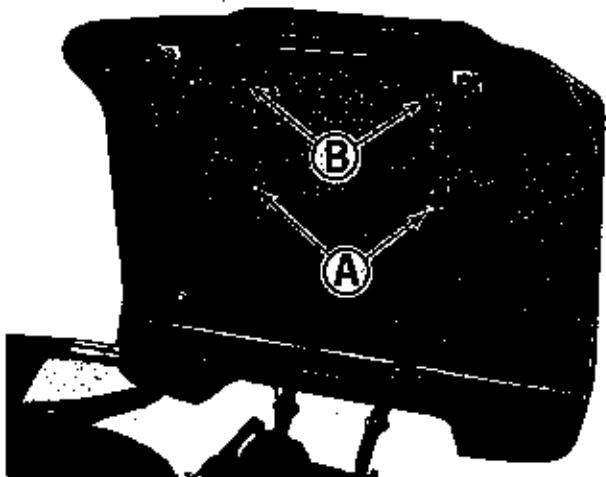
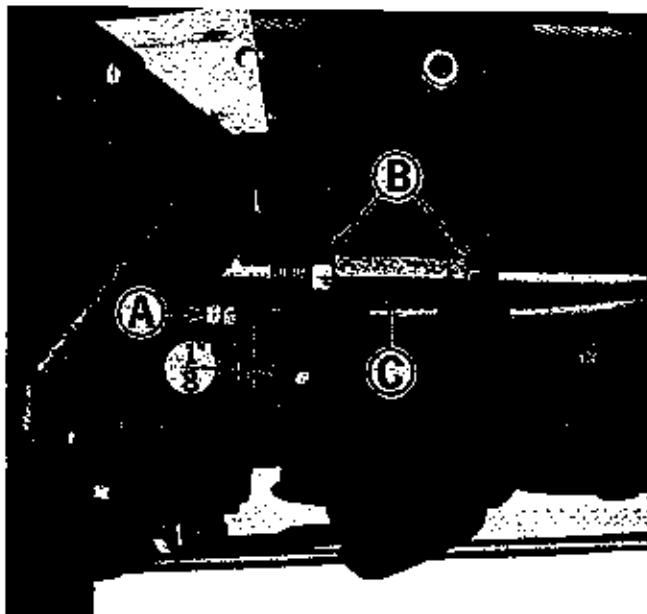

Figure 10. Seat deck raised.
Figure 11. Clutch free travel and hydrostatic transmission neutral adjustment.
locks out raise the seat deck as shown in figure 10. Raising the seat deck in this manner will expose many of the transmission adjustment and maintenance areas.
See figure 10. The tractor seat is properly adjusted when the operator can comfortably operate the clutch and brake pedal while sitting back in the seat. The seat can be adjusted forward or back in any of four positions. If adjustment is required, proceed as follows:
1. See figure 10. Position the seat deck as shown by following the instructions under Raising the Seat Deck on page 10.
2. Remove the two cap screws and lock washers at (A).
3. Remove the two nuts and lock washers at (B).
See figure 11. The clutch free travel is correct when there is $1/8"$ between the nuts (A) and the rod guide when the clutch brake pedal is released and pulled rearward as far as
1. Raise the seat deck as shown in figure 10, by following the instructions under Raising the Seat Deck on page 10.
2. Using two wrenches hold the forward nut at (A) stationary while turning the rearward nut counterclockwise slightly with the other to separate them.
4. Turn the forward nut at (A) as necessary so that the distance between it and the rod guide is $1/8"$ as shown in figure 11.
5. Using two wrenches hold the forward nut at (A) stationary while turning the rear one clockwise to tighten the two nuts together securely.
3. See figure 11. Loosen the two locking nuts (B) on either end of turnbuckle (C).
Use an open end wrench to rotate the turnbuckle (Figure 11, item C) until the brake drum (Figure 12, item A) does not rotate. When the brake drum does not rotate when the engine is running at $1/3$ full speed, the hydrostatic neutral adjustment is correct.
8. See figure 11. After allowing the belt and pulleys to stop turning, use two wrenches to tighten the locking nuts (B) against turnbuckle (C). Tighten the locking nuts (B) one at a time, while using the other wrench to hold turnbuckle (C) from rotating.